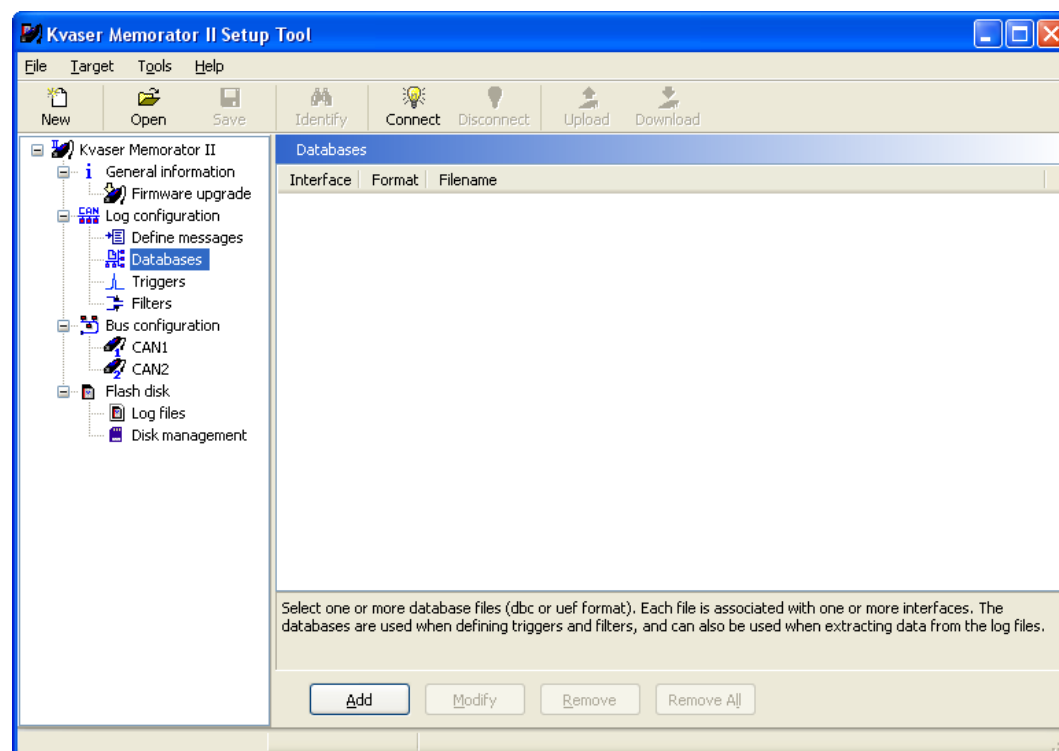

Figure 1. Databases.
- Click at *Log Configuration* and then *Databases* in the tree view to the left in the application, see Figure 1.